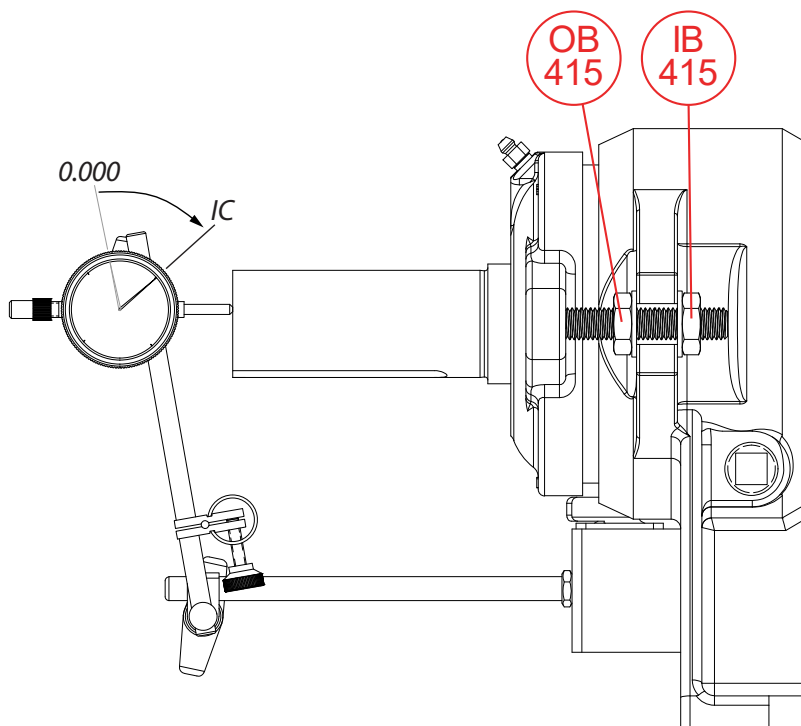

Figure 6-2: Dial indicator method
1. Loosen OB nuts (415), on the coupling side of bearing frame (226) ears. Evenly tighten IB nuts (415), on the impeller side of bearing frame (228) ears, until the shaft (122) has a slight noticeable drag when rotating by hand. This means the impeller (101) is touching the suction cover liner (100B). This current position of the shaft assembly will be noted as the datum, or zero, position.
2. For most accurate clearance setting, the use of a dial indicator is recommended. Set the dial against the shaft (122) end as shown in Figure 6-2 and set the dial to numeric value zero.
3. Loosen IB nuts (415) from the bearing frame (228) ears and thread the OB nuts (415) to the bearing frame (228) ears.
4. Tighten the OB nuts (415) nuts evenly until the dial indicator reaches the value shown in Table 6-1. Ensure while moving the shaft (122) threading of the OB nuts (415) is done evenly as not to skew the bearing housing (134A). A skewed bearing housing (134A) can increase loading on the thrust bearing (112C) leading to shorter life.
5. Tighten IB nuts (415) to the bearing frame (228) ears. Torque all four nuts (415) to values in Table 12-1 on page 51.